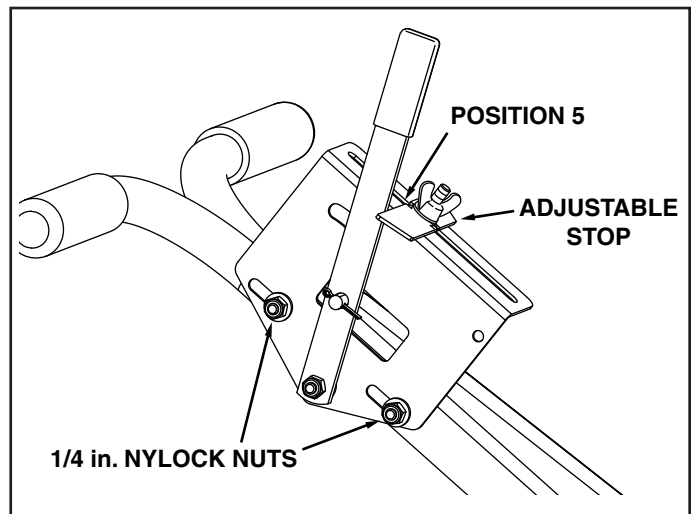

FIGURE 10
14. Adjust the position of the flow control mounting bracket (figures 10 and 11):
- Set the adjustable stop at "5." Latch the flow control lever against the stop. Verify that the closure plate has opened about halfway. See figure 10.
(Refer to figure 10 on page 6.)